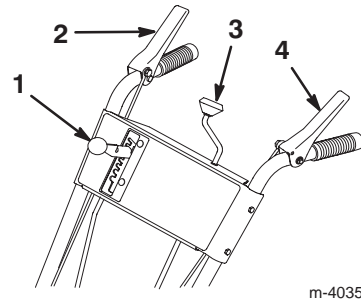

Figure 8
- Move the speed selector (Fig. 8) on the control panel to the *R₂ (Reverse)* position.